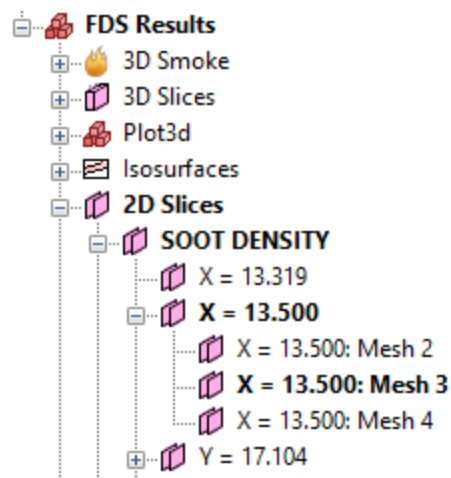

Figure 7-3: Activated 2D slice in the Navigation View
- In the Navigation View, the label for the object becomes **bold**. In addition, all the parent nodes of the object become bold as well. For example, if `SOOT DENSITY` slice `X = 13.5000`: `Mesh 3` is activated, the Navigation View will appear as shown in Figure 7-3. This makes it easy to see which items in a hierarchy are currently active even if a node is collapsed.